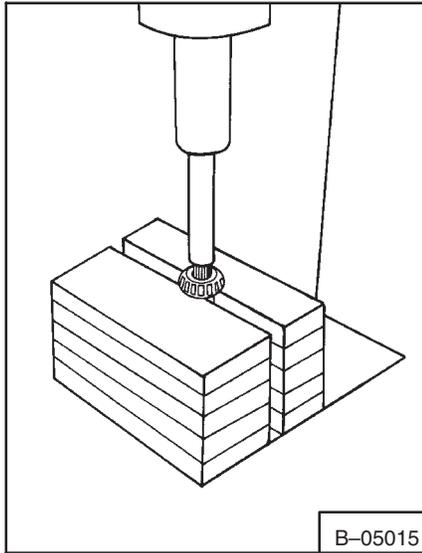

Fig. 3-116 Removing Bearing
- Use a press to remove the bearing from the drive shaft (Fig. 3-116) and bearing race from the housing. Use steps 7 through 8 for disassembly of the other pump unit.